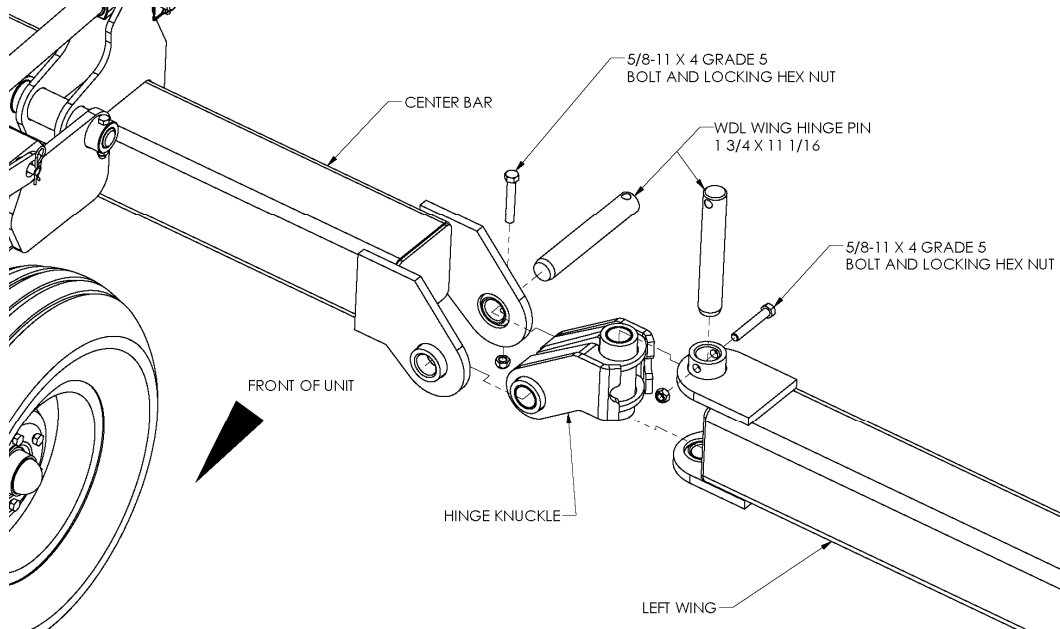

Figure 7
1. Attach the hinge knuckles to the center bar. Use 1 3/4" diameter hinge knuckle pins, 5/8" x 4" grade 5 bolts, and locking hex nuts. Refer to Figure 7.
***NOTE:** Be sure the wings are orientated correctly. Both wings are marked left hand and right hand and a visual reference can be made by looking at Figure 7 and 8.